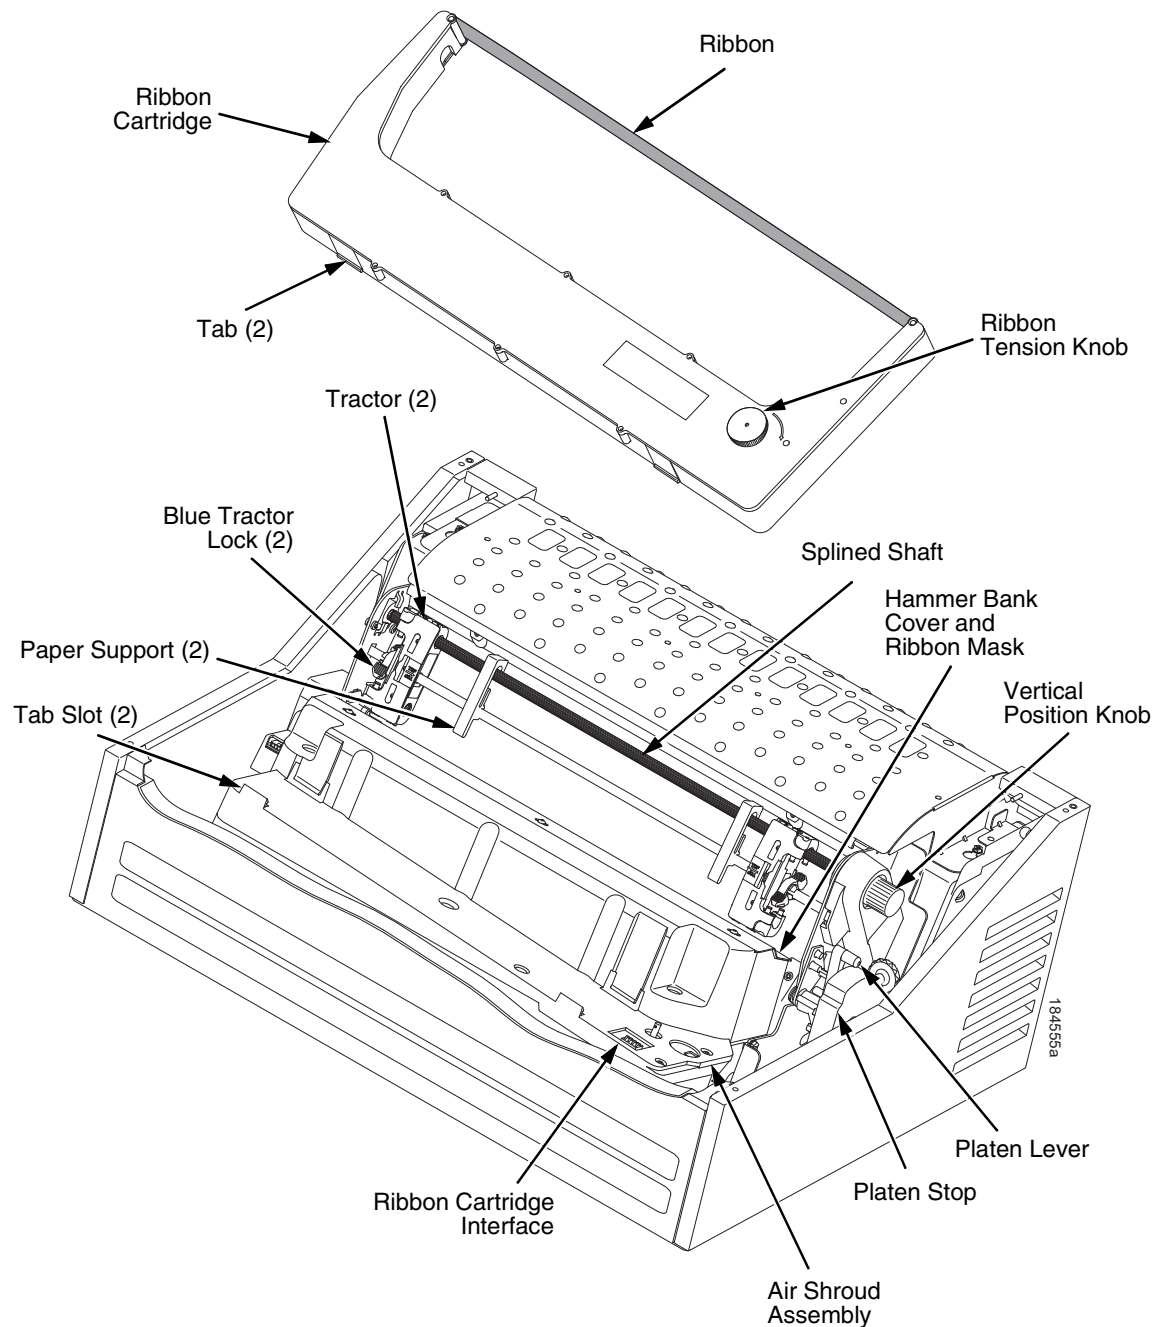

Figure 6. Printer Component Locations
1. Raise the printer cover. Raise the platen lever as far as it will go. (See Figure 6 on page 22 for the location of the lever.)